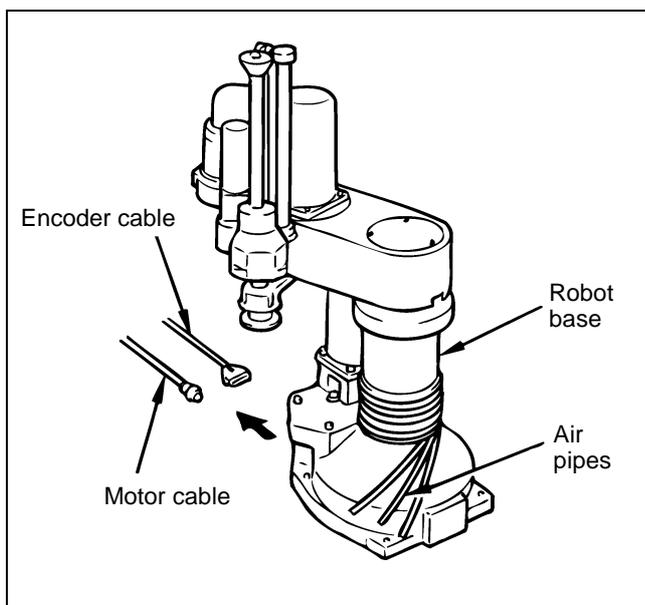

Figure 2-3 Arranging the Air Pipes
- (1) Remove the motor and encoder cables from the robot main unit.
- (2) Wind the air pipes around the robot base (see Figure 2-3).